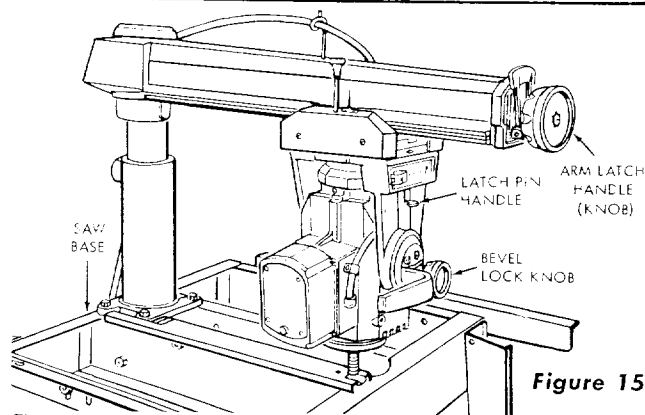

Figure 15
- Swivel the motor counterclockwise until the saw end of shaft is pointing straight down and the latch pin handle "snaps" into a detent. (See figure 15.) Tighten the bevel lock knob. If the motor strikes some part of the saw base raise the radial arm enough to clear it by rotating the elevation crank.